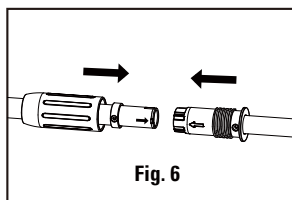

Fig. 6
4. To separate the shafts. Rotate the shaft locking collar counter clockwise until loose and pull them apart. Fig. 6